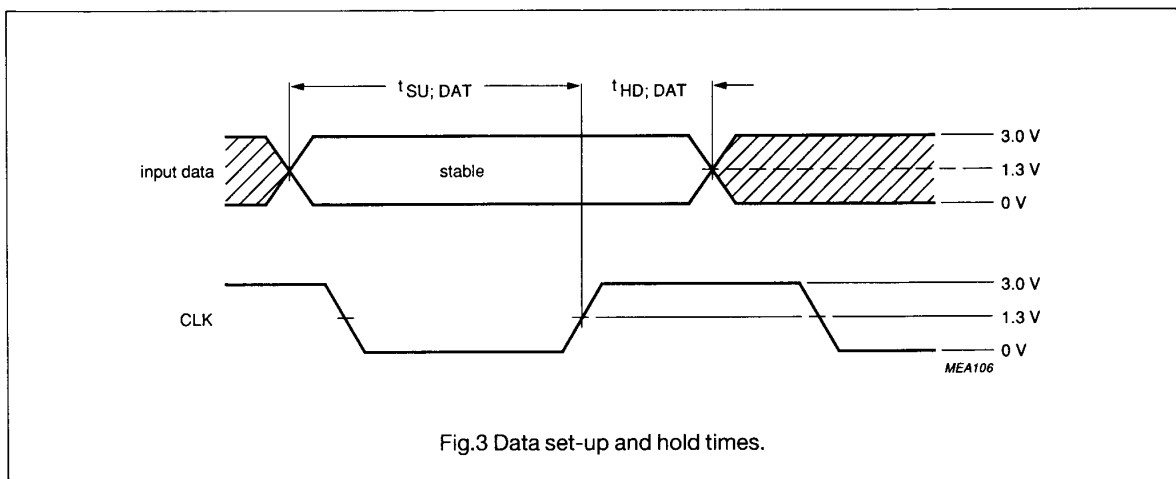

Fig.3 Data set-up and hold times.
Switching characteristics ( $f_{CLK} = 50 \text{ MHz}$ ; notes 4 and 5; see Figs 3,4 and 5)
**Note to Fig.3**